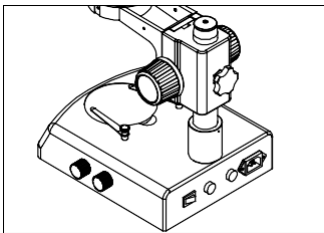

Fig.2
- 2) The suitable position of tightness can make the adjustment more comfortable and prevent the focusing bracket from slipping down by its weight during the observation. (Fig.2)